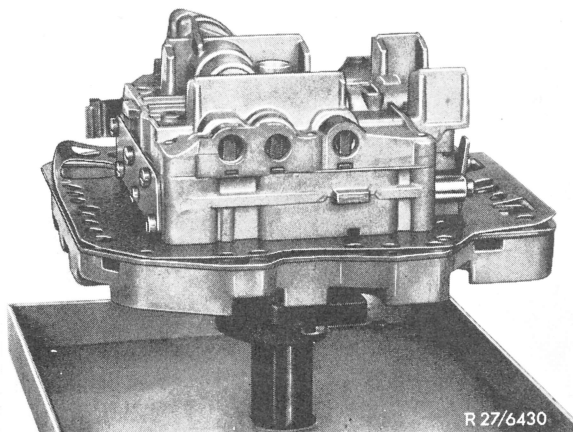

Fig. 2
**2** Position shift valve housing on assembly fixture (Fig. 2).